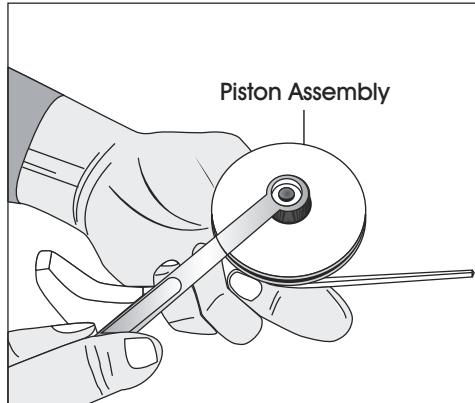

Figure 35
8. Remove the piston assembly with a 10mm spanner wrench. (See Figure 35)